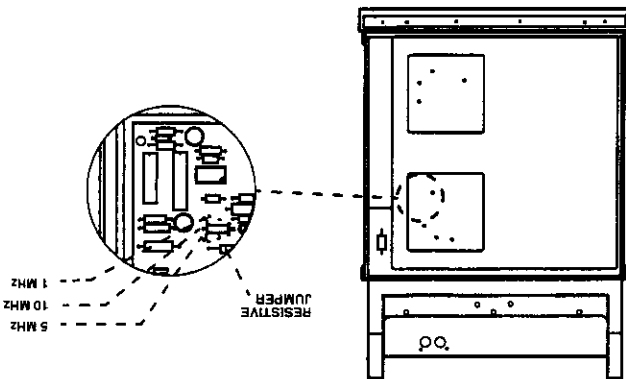

Figure 2-2. Time Base Jumper Location (A3 Board)
- Refer to Figure 2-2. Locate the A3 50 MHz Reference Oscillator. Using a 1/4 inch wrench (spanner), slacken the eight retaining nuts (2 per side) which secure the top cover. Then remove the top cover. Locate the time base selection link.